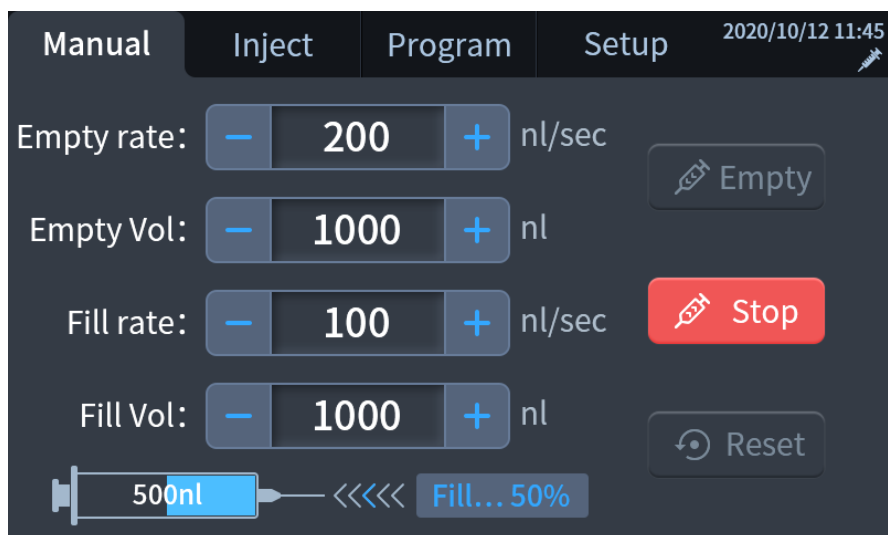

Figure 6-3
- 2) Place the electrode tip in the required reagent, click  to aspirate the reagent at the fill rate and fill volume, as shown in Figure 6-3 to display the filling progress in real time.